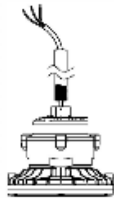
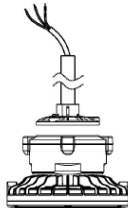

Fig. 8
Fig. 9
3. Run the wire through the steel tube and screw the threaded conduit into the fixture (Fig. 8, Fig. 9).